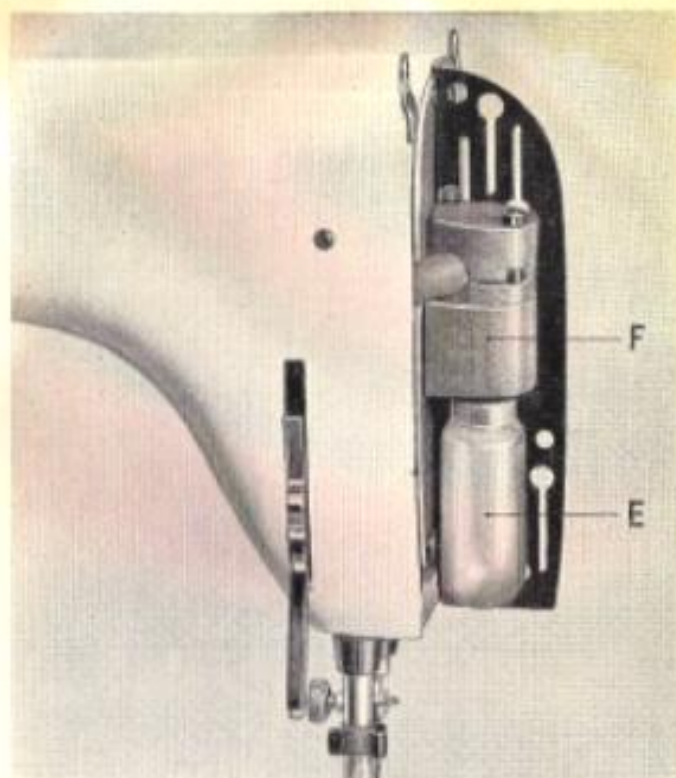

Fig. 18
- b) Push bulb « E » (Fig. 18) upwards and slide it downwards by rotating it toward the left;